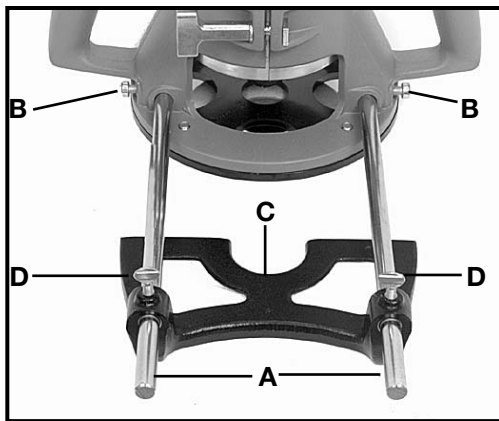

Fig. 9
To assemble, insert guide rods (A) in holes in base, Fig. 9 and secure with screws (B). The guide (C) is adjusted on the rods and secured in desired position with thumb screws (D).